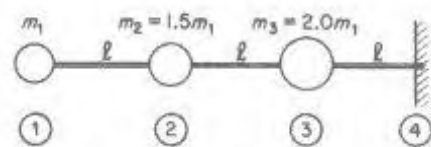

Figure 8b
5. A uniform massless cantilever beam of total length 1.5m and $EI = 0.1 \times 10^6 \text{ Nm}^2$ carries three lumped masses at points along its length as shown in the figure 8b. The smallest mass $m_1 = 100 \text{ kg}$.